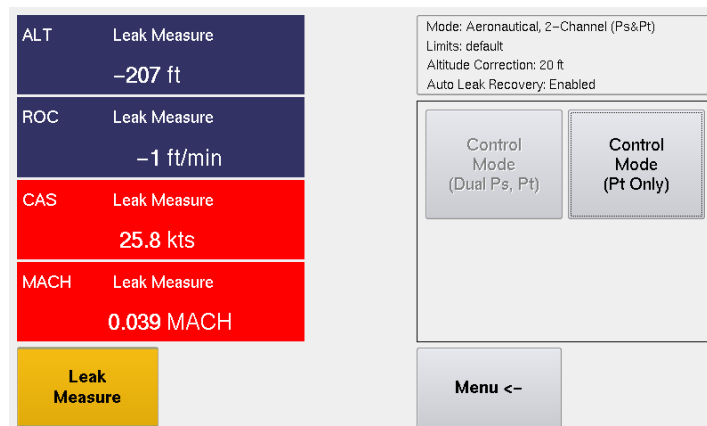

Figure 18 Default 2-Channel (Dual Ps, Pt) mode
(1) Default: Aeronautical 2-Channel (Ps&Pt) (Figure 18)